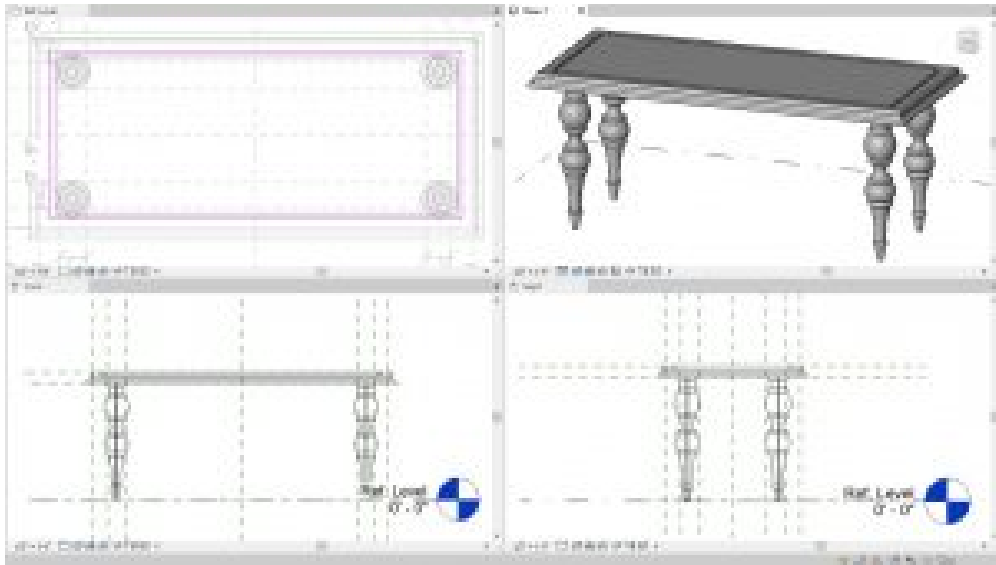

Figure 5.10 Reveal created using a void extrusion
6. Hover the cursor over the reference lines at the edge of the tabletop until the light blue dashed line appears facing towards the tabletop's interior. Use Figure 5.10 as a reference. Do this for all 4 edges.